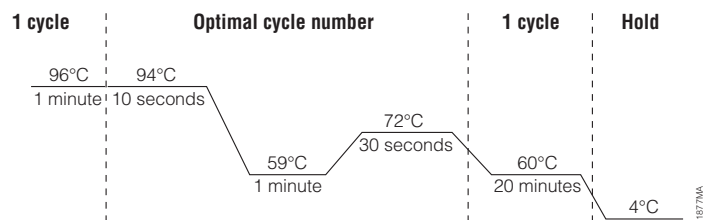

Figure 38. Thermal cycling protocol for the GeneAmp® PCR System 9700 and ProFlex® PCR System.
2. Select and run the recommended protocol, which is provided below and in Figure 38.